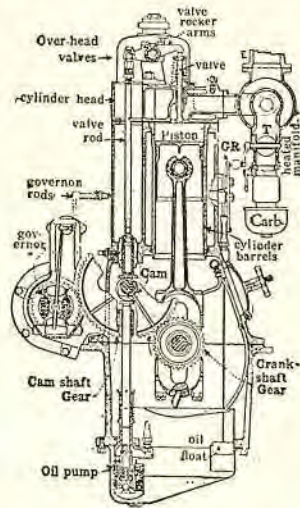

Fig. 20
Usually a 4-cylinder engine is used on tractors, for reasons stated in the instruction on "Tractors." Valves are overhead or on the side, and some use the overhead "dual" valve system. The stroke is usually long, the average being 6" stroke by $4\frac{1}{2}$ " bore. The speed of the engine is controlled by a governor (Fig. 20), which is a centrifugal ball-type, operating through levers to the carburetor throttle (T). The governor is used to maintain a uniform speed and to prevent the engine from "racing" if the load is suddenly released, or from "stalling," if the load is suddenly applied. Speed of the engine
Cylinder sleeves, or barrels, are used on many tractor engines. They consist of removable sleeves or barrels (Fig. 20) placed in cylinder blocks, which, in case of wear or accident, can easily be replaced with new ones. See also, Index, under "Cylinder sleeves."